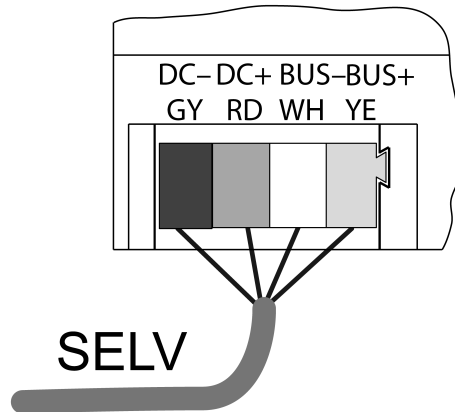

Figure 1: Connection diagram of bus line
- Connect the device with bus line (Figure 1) to the RMD reception module and power supply (see instructions of RMD reception module and power supply).